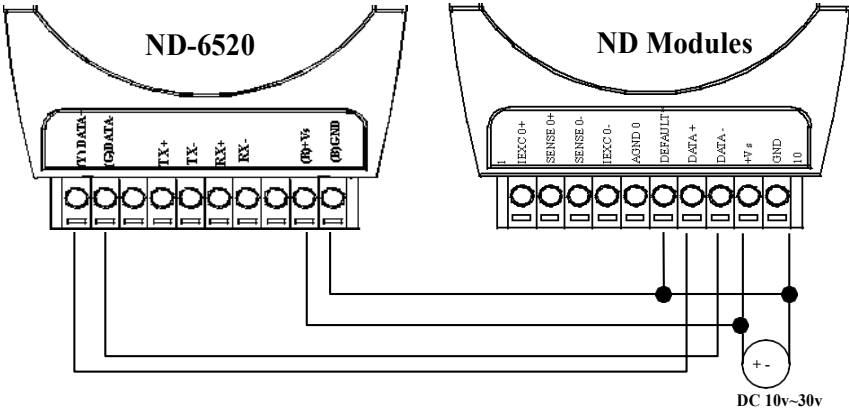

Figure A-1. ND-60xx Default Setting External Connection
1. When setting the baud rate and checksum, please connect the external Default pin to the negative pin of the DC power supply (i.e. GND). Please refer to the circuit path connection in Figure A-1. After setting the device, turn off the power supply and remove the connection between Default and GND. It is now ready for use.